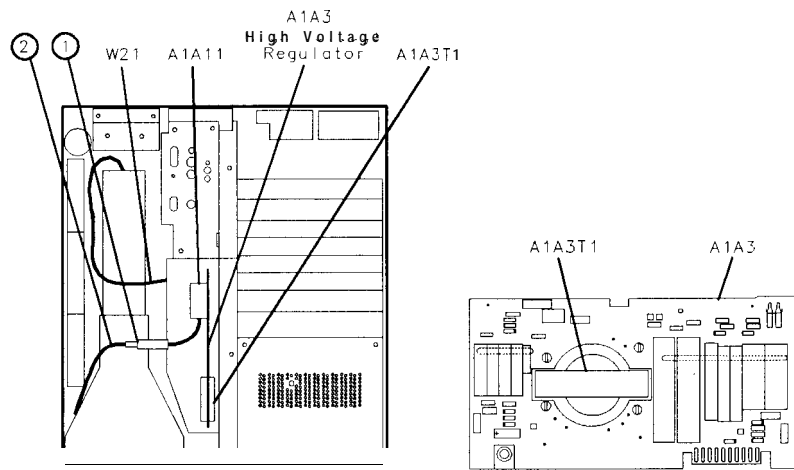

Figure 3-11. Discharging the CRT Post-Accelerator Cable
2. Locate the snap connector on the CRT post-accelerator cable. It is shown in Figure 3-11 as item 1. Using a long flat-bladed screwdriver with an insulated handle, carefully pry the connector loose but do not disconnect the cable.